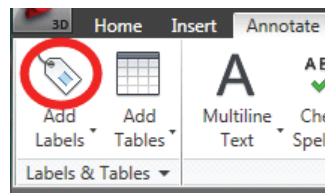

Figure 2–60
2. In the *Annotate* tab > Labels & Tables panel, select **Add Labels**, as shown in Figure 2–60.
3. In the Add Labels dialog box, set the following parameters, as shown in Figure 2–61: